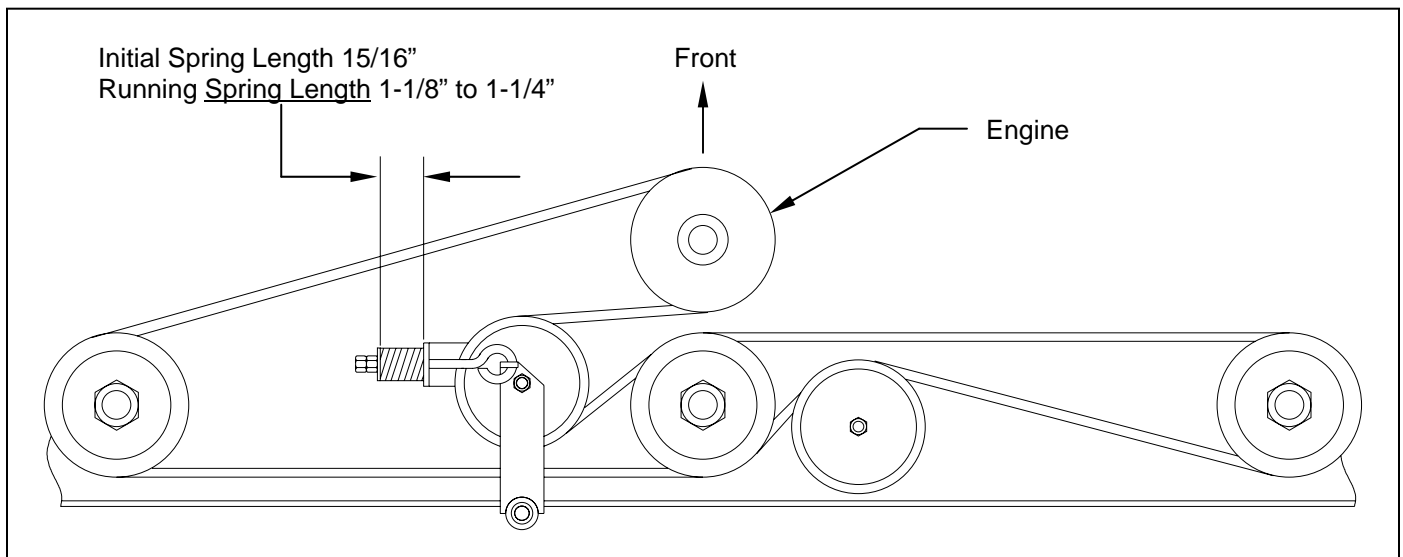

Figure 8: Belt Pattern and Spring Adjustment (Model H60T & H60H)
**Models H60T & H60H: – See *Figure 8*.**